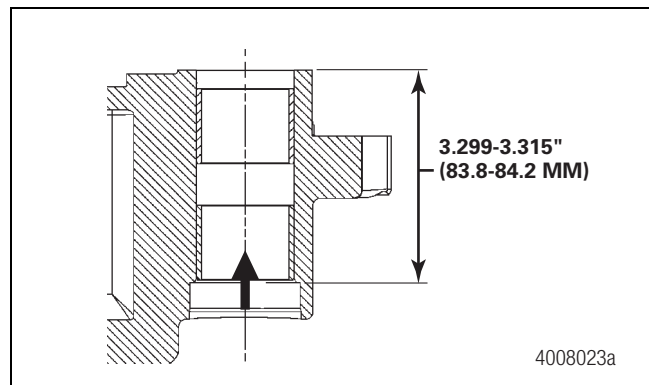

Figure 5.37
4. Repeat Steps 1-3 to install the second bushing, but insert the bushing from the end cap side of the bore. To confirm the correct position for the second bushing, measure the distance from the same end face of the housing (on the boot retainer side of the bore) to the bottom of the second bushing. The measurement should be 3.299-3.315-inches (83.8-84.2 mm). Figure 5.37.